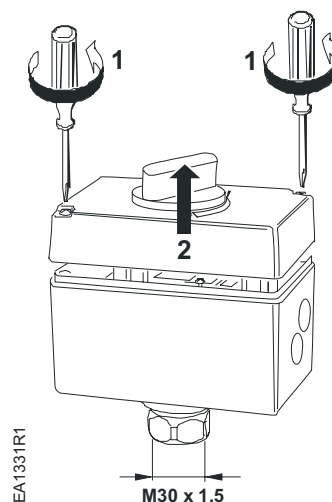

Figure 2.
1. Remove the actuator cover using either a #2 Phillips or a #2 flat blade screwdriver. See Figure 2.